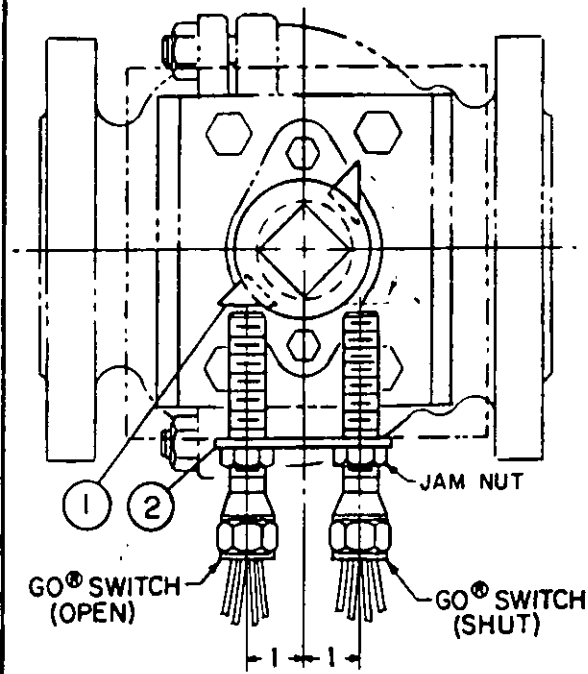

FIG. 1
1. With Valve Actuator removed slide Switch Activator (item 1) onto drive shaft as shown in figure 1.
2. To Mount Mounting Bracket (item 2) match drill and tap for three #10-24 UNC screws and attach item 2 to Actuator mounting bracket with items 4 & 5.
3. Screw GO Switches into threaded holes on Mounting Bracket (item 2) and secure with jam nuts included with switches.